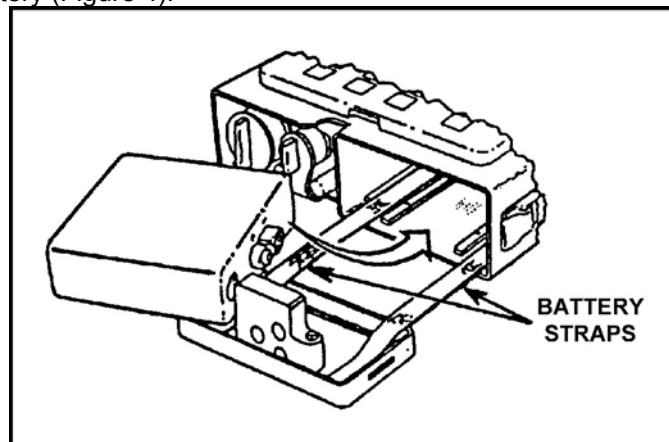

Figure 4. Battery straps on proper position.
- d. Two straps are attached to the battery compartment cover. These straps help to remove the battery from the battery compartment when changing or removing a used battery. Install these under the battery (Figure 4).